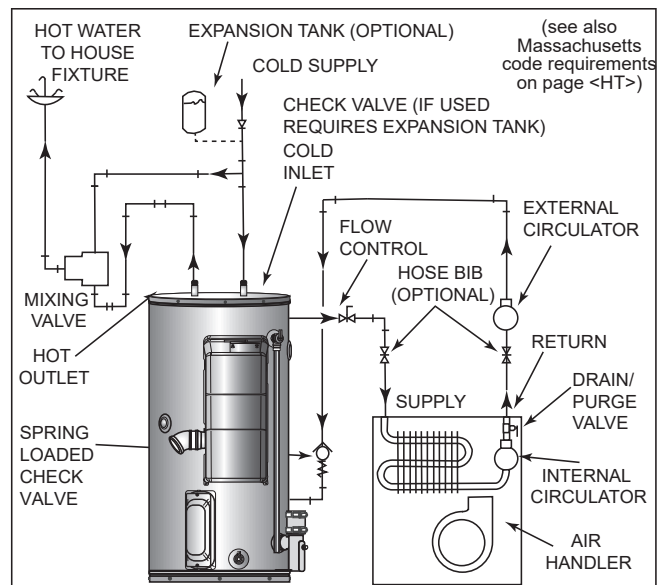
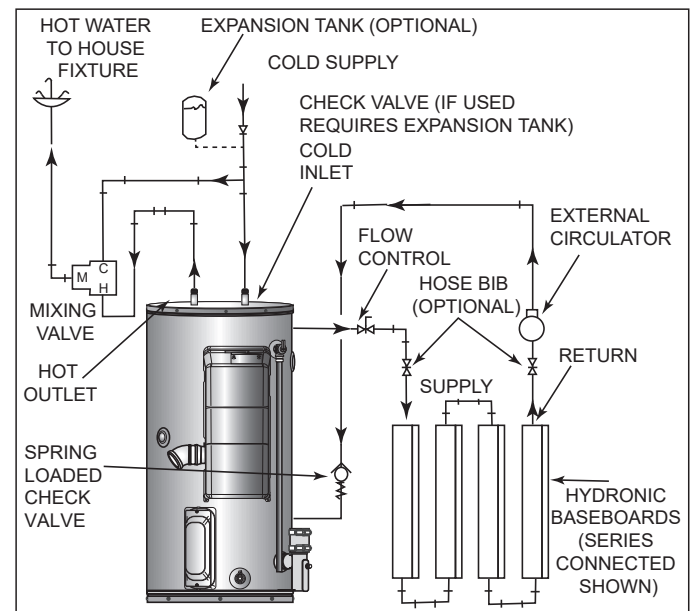

Figure 39. Typical Combo Heating Configuration
Figure 40. Typical Combo Heating with Hydronic Baseboards
8. “Combo” Heating Systems require higher water temperatures than other applications. When the system is used to supply water for Combo Heating applications, a means, such as Thermostatic Mixing Valves at each point-of-use, must be installed to temper the water in order to reduce scald hazard potential. See **Figure 39** and **Figure 40**.
- A. A fan coil/air handler. See **Figure 39** (page 37).
- B. A hydronic baseboard (finned tube) loop/In floor heating. See **Figure 39** (page 37).